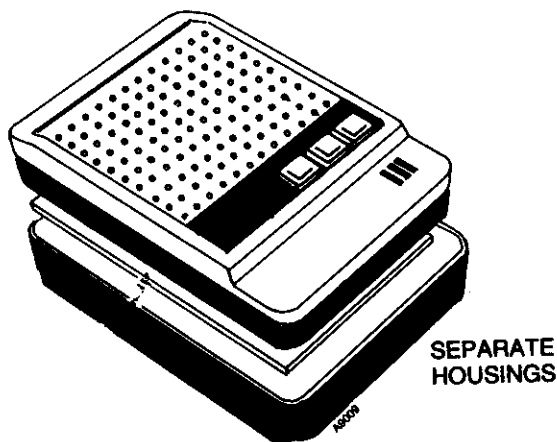

Figure 1 SEPARATING BASE AND COVER, MONITOR BOX
- Separate the base and cover of the unit by placing a screwdriver in the slots at the top and prying the base from the cover (Figure 1).